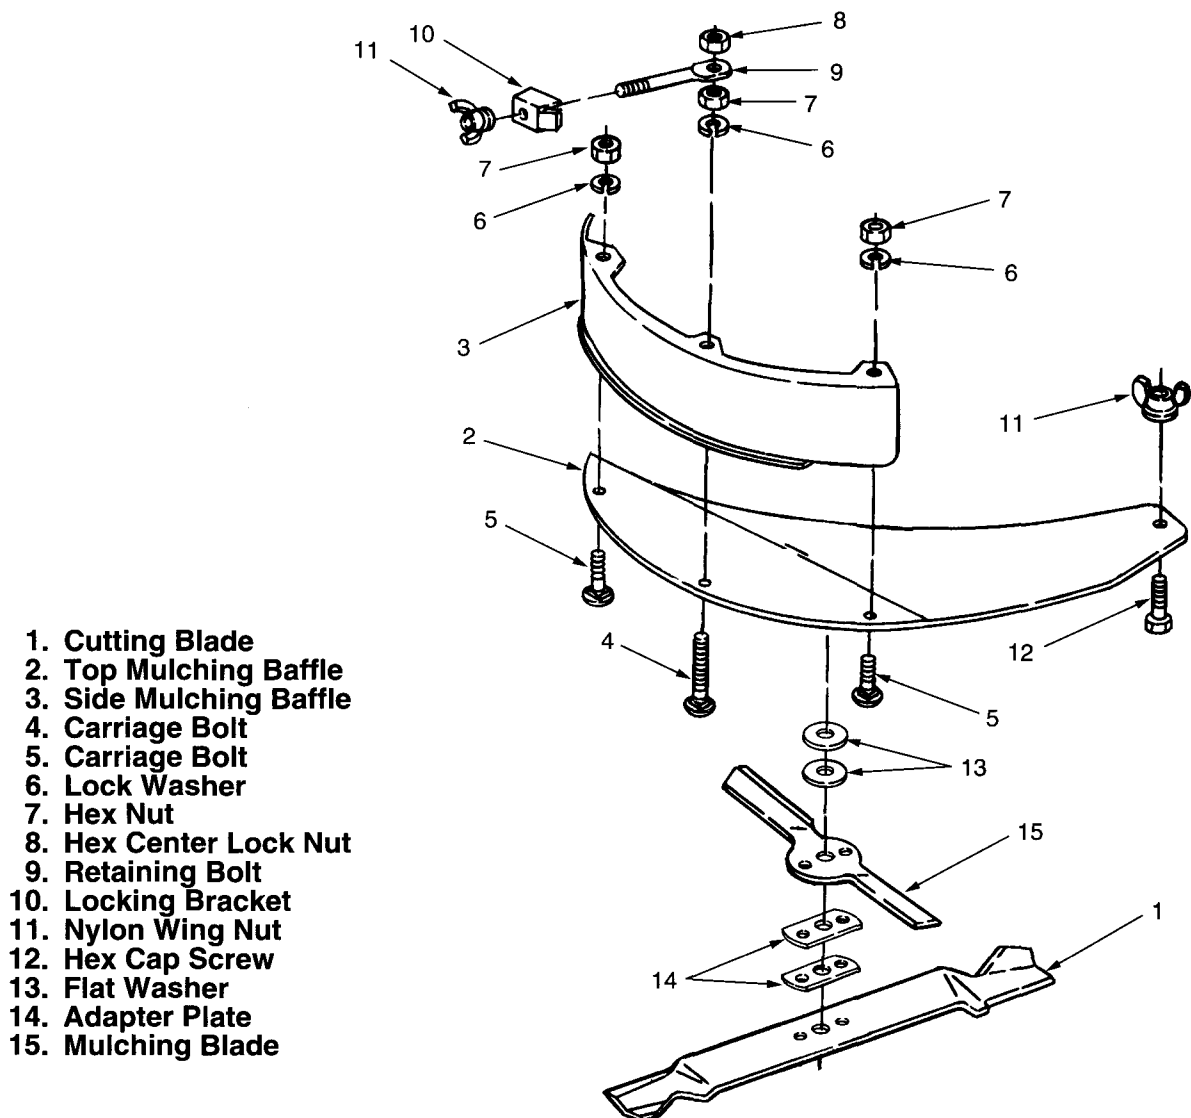

Figure 7-1. Mulching Kit Components.
7-2.1.1 Before beginning installation of the mulching attachment, refer to Figure 7-1 to confirm that all parts are included.
- a. Slide the two flat washers (13, Fig. 7-1) onto each spindle shaft.
- b. Install the mulching blades (15, Fig. 7-1), making certain the sharpened edge is forward in relation to the blade rotation (sharpened edges pitch upward toward underside of deck).
- c. Install the two plate adapters (14, Fig. 7-1).
- d. Making sure the lift wings point toward the deck housing, install the cutting blades (1) and loosely secure with the flat washers and hex nuts removed earlier.